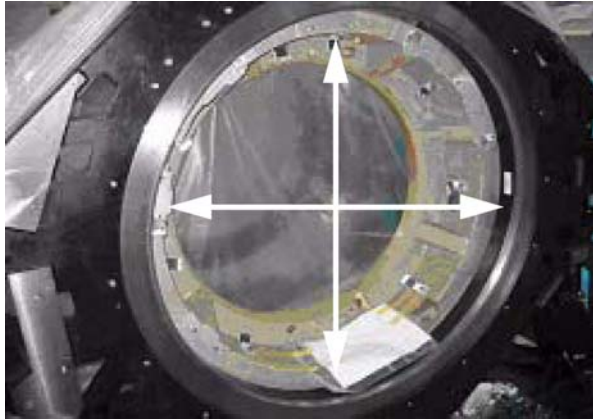

Figure 1-16 Inspection Locations
- 4.) Use a 2.5 mm hex wrench as a tool to measure the gap at the positions shown in Figure 1-16. The location of gantry components does not matter. Measure four (4) locations 90 degrees apart from each other.